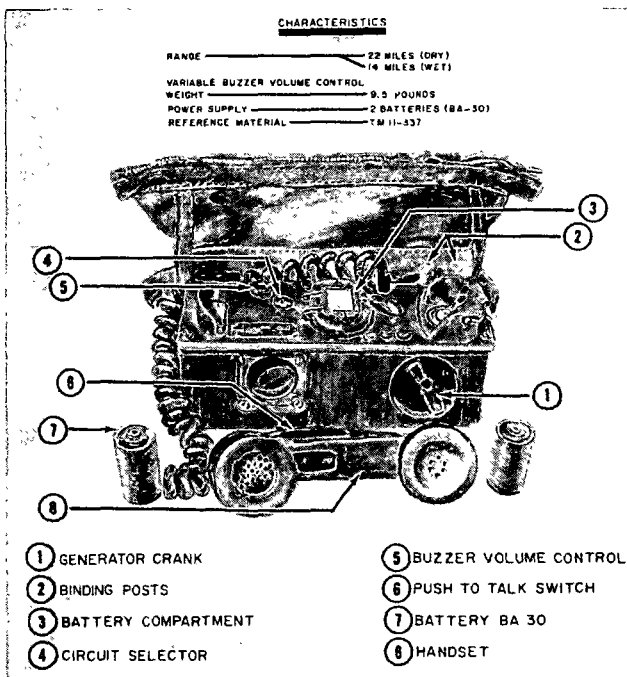

Figure 266. Telephone set TA-43/PT.
a. Wire Communication. Field wire communication systems are rugged, and, with the exception of the wire itself, can be installed and removed rapidly. A typical field wire communications system consists basically of field telephones, teletypewriters, and switchboards. Figures 266 through 268 illustrate different types of field telephones commonly used and their characteristics.
- (1) *TA-43/PT.* The telephone set TA-43/PT is a rugged, lightweight, waterproof field telephone that may be used under